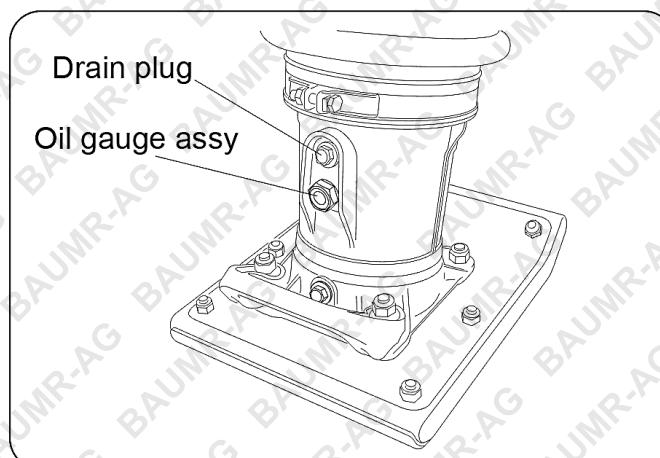

Fig. 3
2. This product is shipped with hydraulic oil. To check oil level, place the machine body on a level surface and look at the oil gauge window. See if the oil is at the specified level (Figure 2). This uses **10W-30 engine oil**, the same oil as the engine. Fig 3, shows enough oil. Fig. 4, shows oil needs replacing.